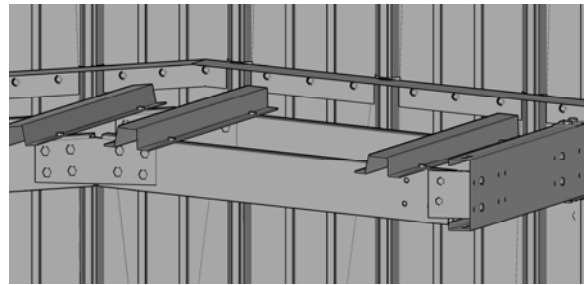

**FIGURE 12**
2. Cut each of the major ribs as shown in Figure 12 following the roof slope. **Do not cut the minor ribs or the flat of the panel.** If the end of the roof sheet ends on a major rib, only cut the portion of the rib in line with the roof panel.